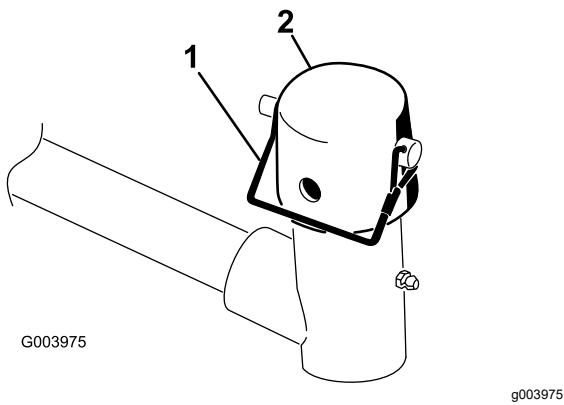

Figure 6
8. Remove the snapper pin and the cap from the lift-arm pivot yoke (Figure 6).